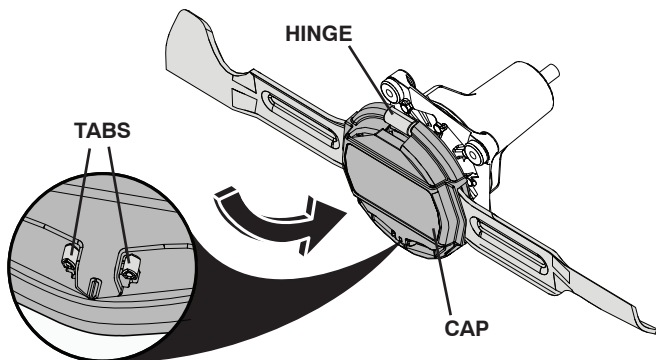

Fig. 40
- Reinstall cap. Hook cap onto hinge and rotate onto tabs. Press cap firmly into place, ensuring both tabs lock into cap. (See Fig. 40)